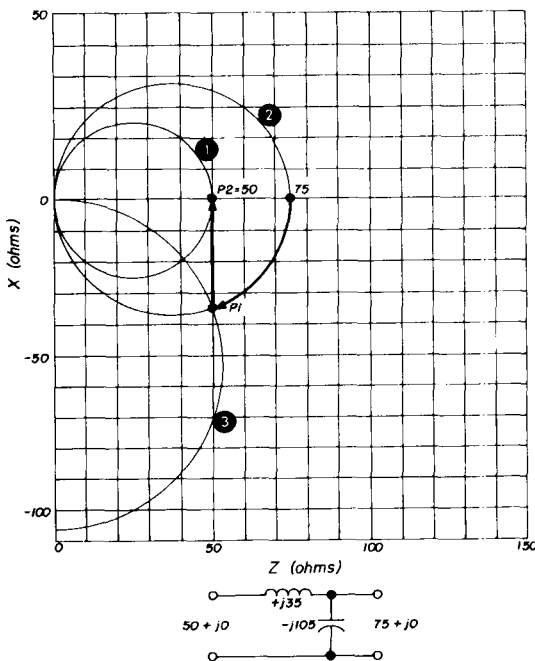

fig. 13. Examples of 2-step impedance path from 75 ohms to 50 ohms in an L network.
4. Solution. Scaling the  $Z$  vector gives an impedance of 2.5 ohms (3).
**Problem 2.** In the network of fig. 13, it is desired to find  $X_L$ ,  $X_C$ , and  $C$  for a frequency of 3.9 MHz.
1. Construct circles (1) and (2) through 50 ohms and 75 ohms as shown.
3. Construct circle (3) through **P1**. It will intersect the vertical axis at  $-105$  ohms. This is  $X_C$  parallel capacitive reactance obtained in moving clockwise from 75 ohms along circle (2) to **P1**, which is directly below **P2**, the 50-ohm point.